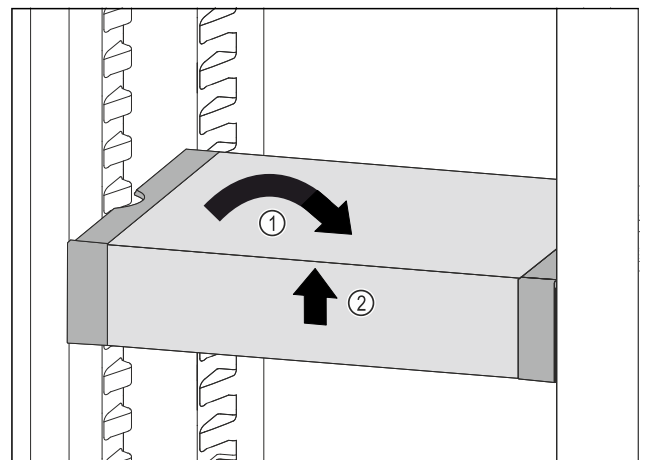

Fig. 192
- Set VarioSafe straight. Fig. 192 (1)
- Lift VarioSafe at the front. Fig. 192 (2)